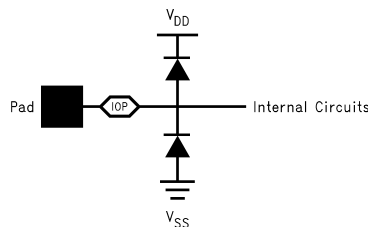

Figure 2.
- (1) To ensure accuracy, it is required that $|V_{DDA}-V_{DDIO}| \leq 100$ mV and separate bypass capacitors are used at each power supply pin.
- (2) With the test condition for $2 V_{P-P}$ differential input, the 10-bit LSB is 1.95 mV.
- (3) Typical figures are at $T_A = T_J = 25^\circ C$ and represent most likely parametric norms. Test limits are specified to Texas Instrument's AOQL (Average Outgoing Quality Level).
- (4) The analog inputs are protected as shown below. Input voltage magnitude up to 500 mV beyond the supply rails will not damage this device. However, input errors will be generated if the input goes above V_{DDA} or V_{DDIO} and below V_{SSA} or V_{SSIO} . See Figure 2
- (5) The input bandwidth is limited using a capacitor between V_{IN-} and V_{IN+} .
- (6) V_{COM} is a typical value, measured at room temperature. It is not specified by test. Do not load this pin.
- (7) I_{DDIO} is the current consumed by the switching of the output drivers and is primarily determined by load capacitance on the output pins, the supply voltage, V_{DR} , and the rate at which the outputs are switching (which is signal dependent). $I_{DR} = V_{DR} \times (C_0 \times f_0 + C_1 \times f_1 + C_2 + f_2 + \dots + C_{11} \times f_{11})$ where V_{DR} is the output driver supply voltage, C_n is the total load capacitance on the output pin, and f_n is the average frequency at which the pin is toggling.
- (8) Power consumption includes output driver power. ($f_{IN} = 0$ MHz).
(1) The analog inputs are protected as shown below. Input voltage magnitude up to 500 mV beyond the supply rails will not damage this device. However, input errors will be generated if the input goes above V_{DDA} or V_{DDIO} and below V_{SSA} or V_{SSIO} . See Figure 2
(2) Optimum dynamic performance will be obtained by keeping the reference input in the +1.2V.
(2) Timing specifications are tested at TTL logic levels, $V_{IL} = 0.4V$ for a falling edge, and $V_{IH} = 2.4V$ for a rising edge.